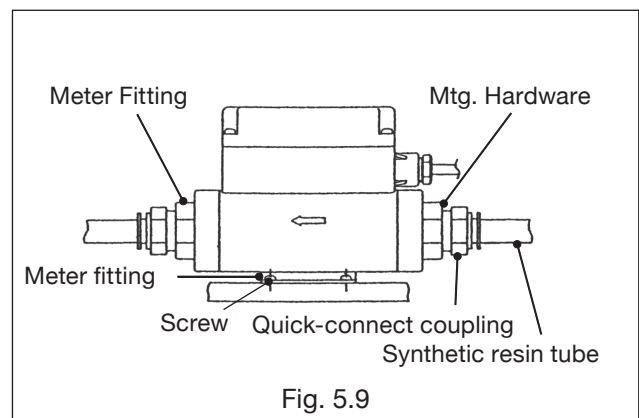

Fig. 5.9
**☞ NOTE:** When connecting to piping, fix the aluminum joint on the connecting side with a tool such as a spanner before piping. (Fig.5.9)